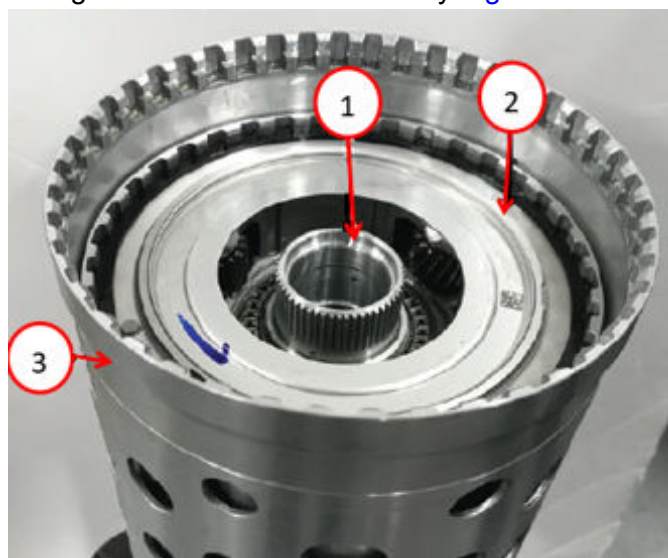

Fig. 25
38. Remove the P4 planetary carrier/output shaft lock ring from the P4 annulus drum by gently prying the locking tabs open and turning the lock ring to center the locating tabs in the output shaft tab openings. Discard the lock ring and install a new lock ring during assembly Fig. 25.